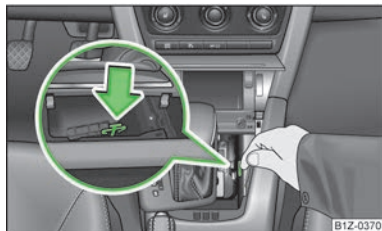

Fig. 104
- Use a finger to press the yellow plastic part in the direction of the arrow » Fig. 104.